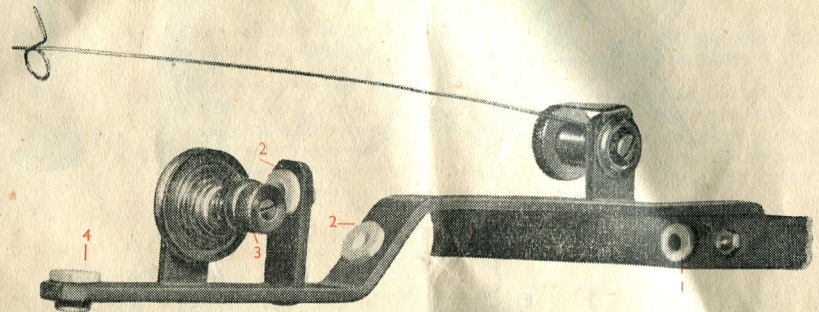

Fig. 12
Yarn Stand Tension Spring (Fig. 12).
Thread the yarn through hole in the bobbin stand (J) (Fig. 1), through holes (15A) and (15B) in tension bracket (Fig. 12), then through the yarn feeder (16), using the tension spring (25) (Fig. 4B), let a short length of yarn hang down from below the yarn guide (16).